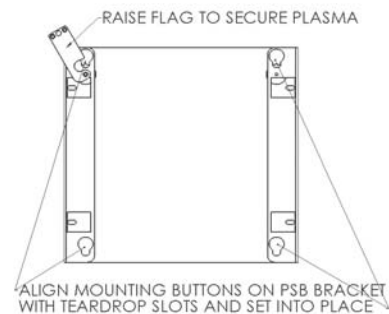

Figure 2
4. With the aid of another person, lift the display up to the mount, align the mounting buttons with the teardrop slots in the mount, and set the display into place (see Figure 2).
5. Position (raise) the flag to secure the display (see Figure 2).